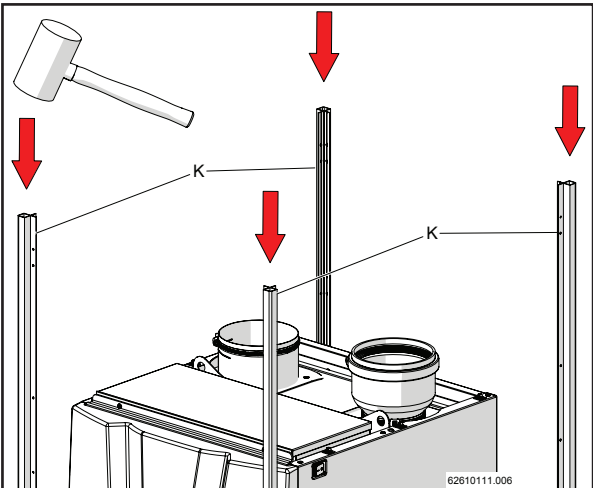

Figure 12-9
- 5.- Insert the four tubes "K" over the pins on the lower frame "J" using a rubber hammer (figures 12-9 and 12-10).